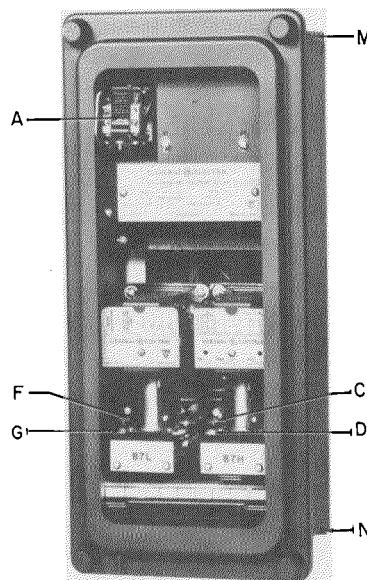

Fig. 1. Type PVD relay, front view
- A. Figure 1 on page 1 indicates that the reference letter for the Seal-in Unit is "A".